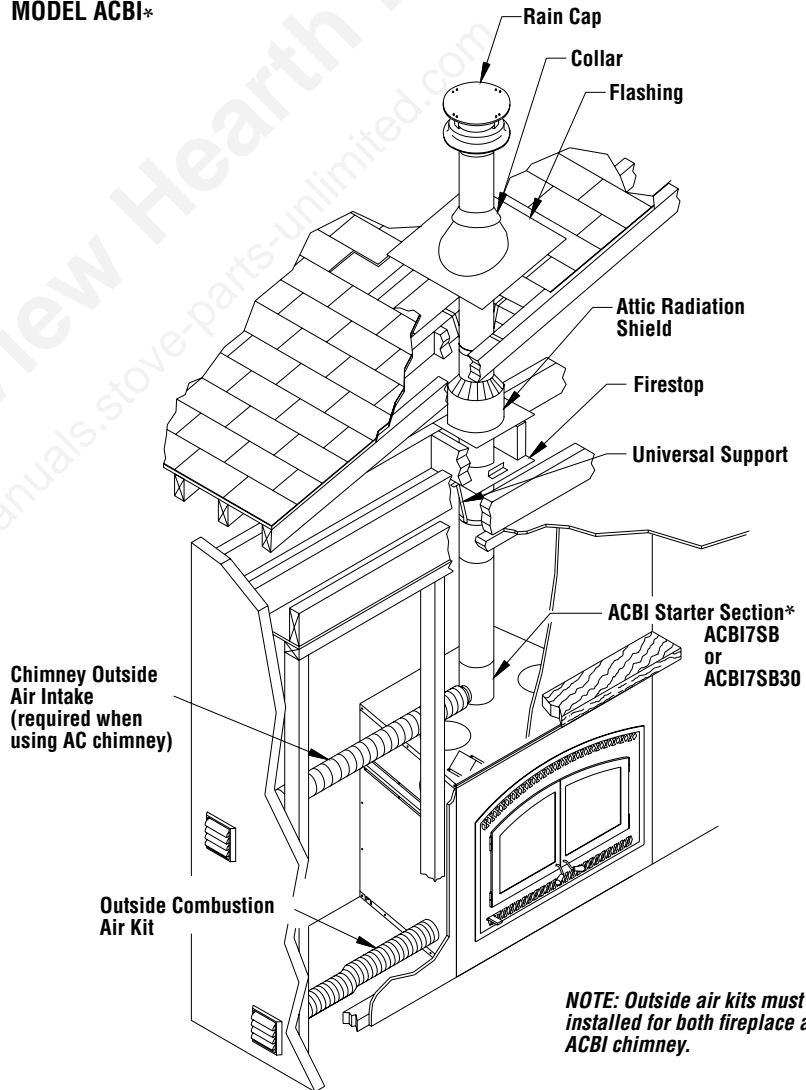

Figure 29
3. For Secure Temp® S2100+ / Nova Temp HT6000+ / Secure Temp GX chimneys*, place the first chimney length on the fireplace. To lock it in place, turn 1/4 of a turn clockwise. With the ACBI chimney, you must use a starter section before installing the first chimney length (**Figure 29**). Continue installing chimney lengths making sure to lock each length in place.